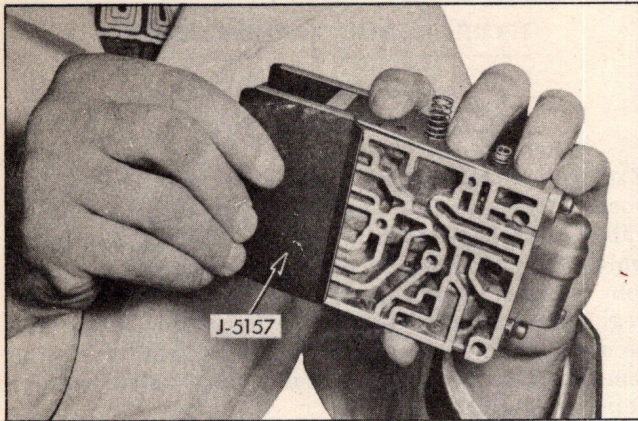

Fig. 14 Using Special Tool J-5157
9. Slide tool J-5157 over the inner valve body so that the lips on the open end of the clamp will hold the front valve body spacer plate in position (Fig. 14).